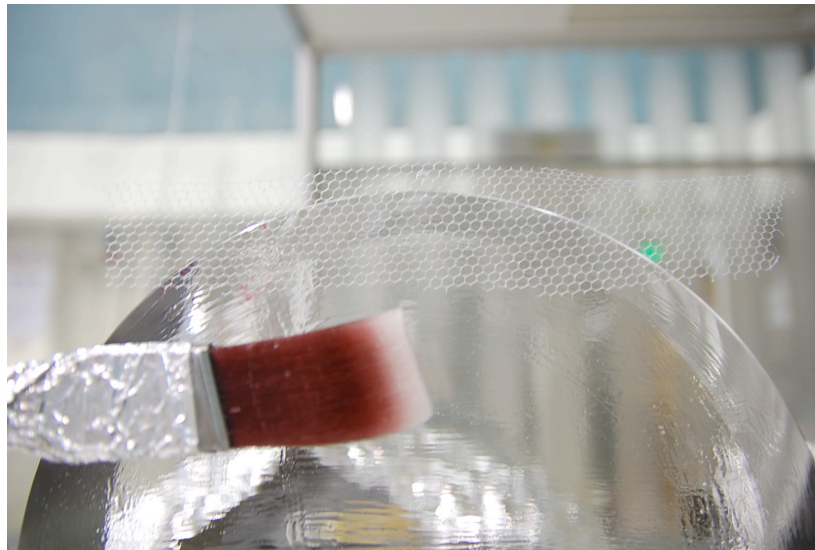

Figure 3: Leave mesh sticking up enough to grab it for removal.
1. Cut a strip of nylon mesh about 1''x 5''. (see in Fig. 3)
2. Hold mesh against the top of the optic. Leave about half the strip sticking up off the top of the optic (Fig.3).